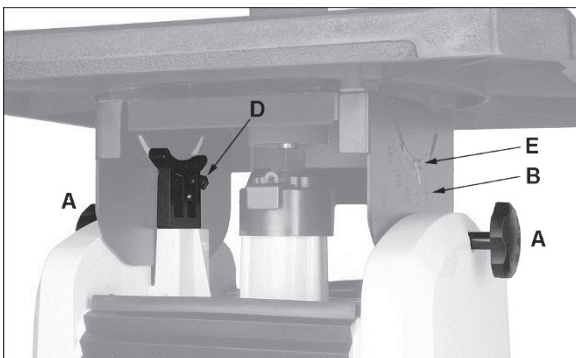

Figure 11: table tilt
Refer to Figures 11 and 12.
- Loosen both knobs (A, Figure 11) counterclockwise.
Refer to Figures 11 through 13.